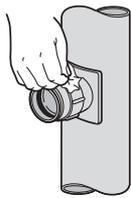

Fig.25d Removing excess cement
Step 9 – Remove excess cement (Fig.25d)